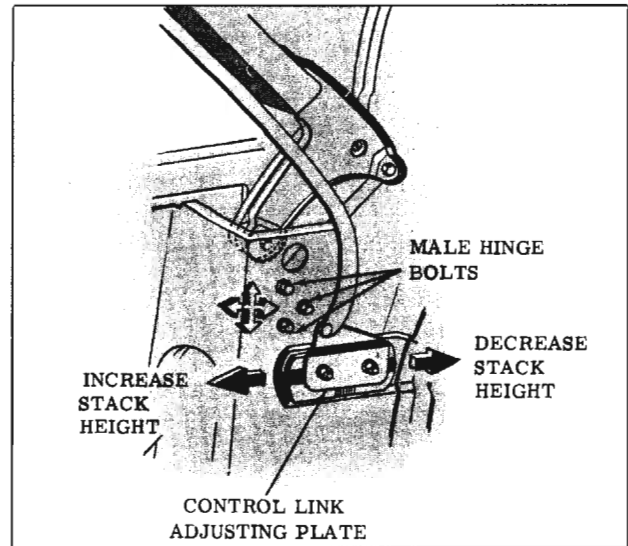

Fig. 16-106 Control Link Adjusting Plate
3. Loosen two bolts securing control link adjusting plate sufficiently to permit adjustment of plate. (Fig. 16-106)
2. Loosen male hinge assembly attaching bolts. (Fig. 16-106)